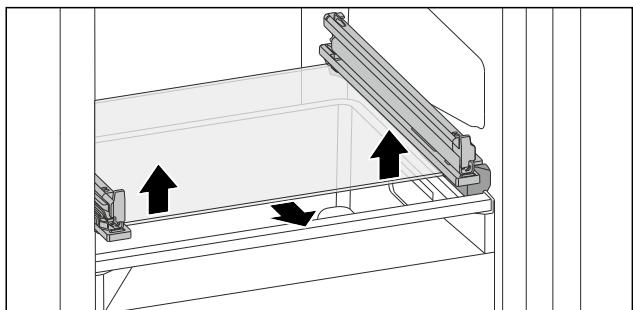

Fig. 108 Tilting drawer glass shelf
- ▶ Push glass shelf upwards from below on both sides. (see Fig. 108)